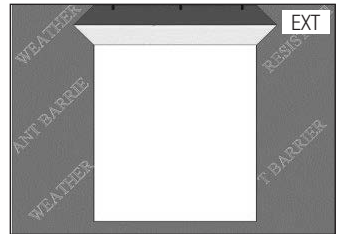

FIG. 4
- I) Temporarily tape this top flap up. (Fig. 4)